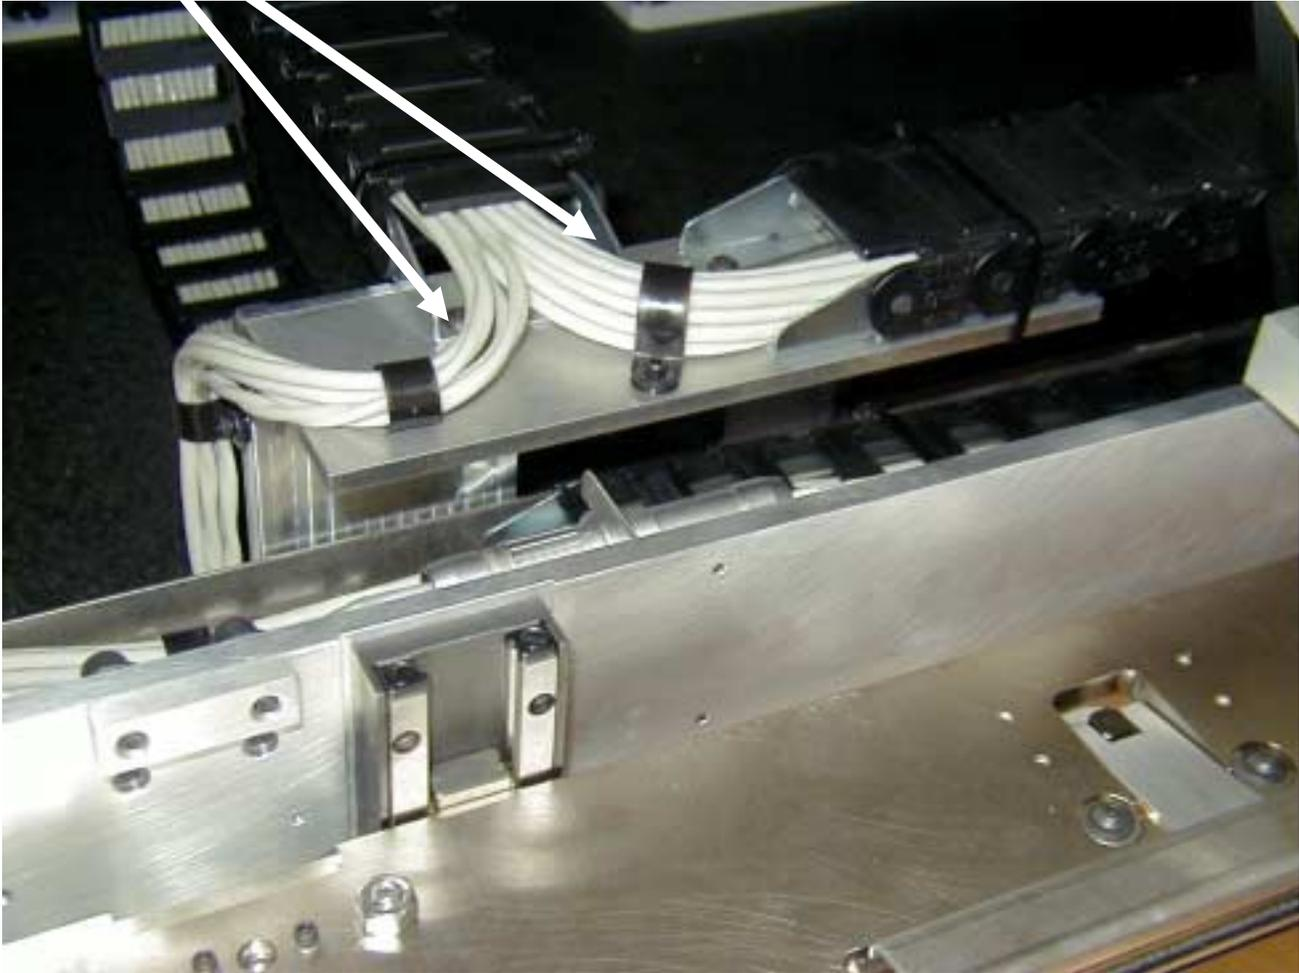

Figure 3
9. Using the 1/8" Allen Wrench, remove the 2 screws holding the E-Chain to the E-Chain Support. Leave the E-Chain in its general position. Save the 2 screws (see Figure 3).